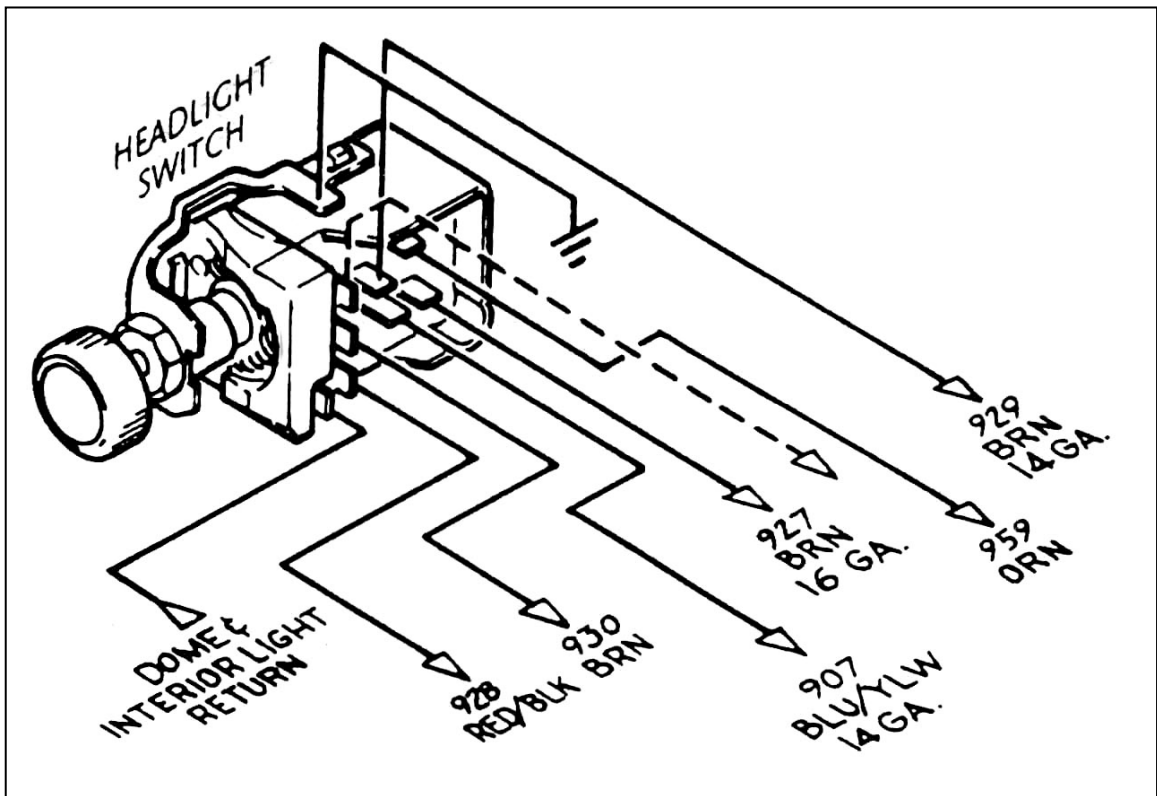

Figure 10-6 HEADLIGHT SECTION B (GM Style Switch – Painless Part #80152)
- 10.4.1** Interior Lights are switched through the door switches and the dash-mounted headlight switch, which is usually rotated counter-clockwise to turn on. These switches apply ground to the circuit. YOU WILL NEED TO SUPPLY THESE GROUND WIRES. 12V is continually present at the light bulbs. See **Figure 10-6**.
10.6 HEADLIGHT SECTION B Wiring. See Figure 10-6.
*Note: On late-style GM headlight switches, the park lights terminal to which wire #927 (brn) is connected (shown in **Figure 10-6**) has been omitted. In this case, wire #927 must be connected as indicated by the dashed line in **Figure 10-6**.*